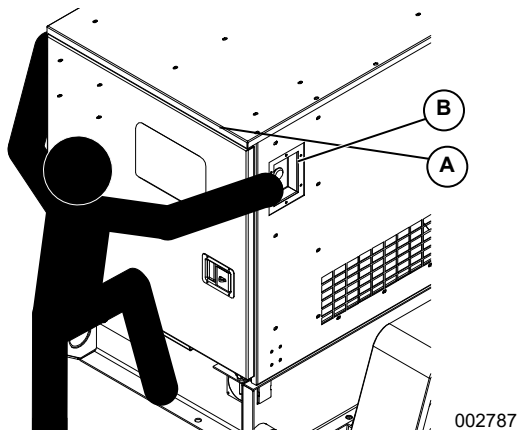

Figure 2-10. Emergency Stop Panel
4. See Figure 2-10. Grip lip of emergency stop panel (B) on right side of unit.